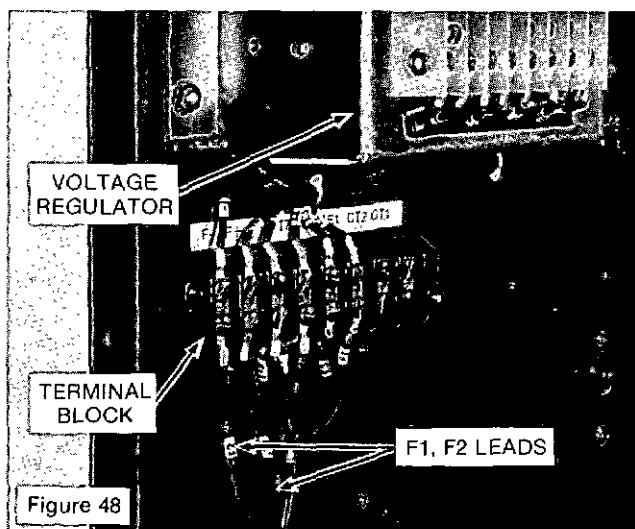

Figure 48
4. Connect the F1 and F2 leads to the corresponding F+ and F- terminals on the terminal block on the regulator panel and install the regulator enclosure. (See Figure 48).